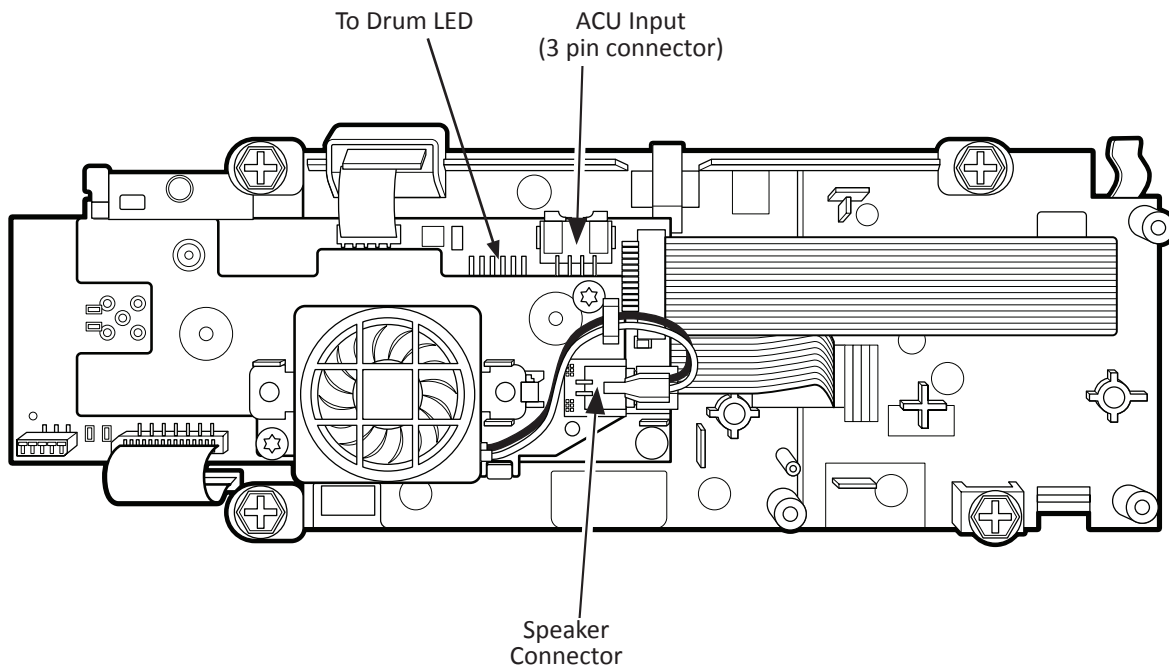

Figure 2 - Connector Locations on HMI
3. Visually check that all ACU connectors are inserted all the way into the ACU. See Figure 2, page 3-5.
4. Visually check that all HMI connectors are inserted all the way into the HMI (see Figure 2 below).